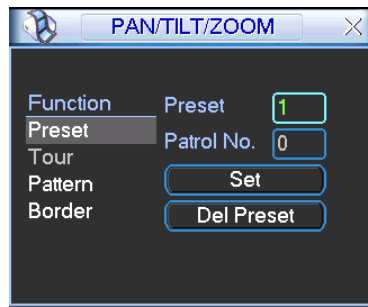
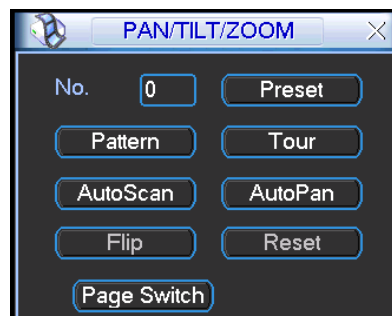

Figure 4-39
Figure 4-40
In Figure 4-36, please click the “set” button. The interface is shown as below. See Figure 4-39.
In _ Figure 4-36, click page switch button, the interface is shown as in Figure 4-40. Here you can activate the following functions:
- The following setups are usually operated in the _Figure 4-36, Figure 4-39 and Figure 4-40.
In Figure 4-39, click preset button and input preset number. The interface is shown as in Figure 4-41.
In Figure 4-40, please input preset number in the No. blank, and click preset button.
In — Figure 4-39, input patrol (tour) number in the No. blank and click patrol button
In Figure 4-39, click pattern button and then click “begin” button. The interface is shown as in Figure 4-43. Then you can go to Figure 4-36 X to modify zoom, focus, and iris.
In _ Figure 4-39, input mode value in the No. blank, and click pattern button.
In Figure 4-40, click “Auto Scan” button, the system begins auto scan. Correspondingly, the auto scan button becomes Stop button. Click stop button to terminate scan operation.
In Figure 4-40, click page switch button, you can see an interface is shown as below. See Figure 4-45. Here you can set auxiliary function. The aux value has relation ship with the Aux button of the decoder.